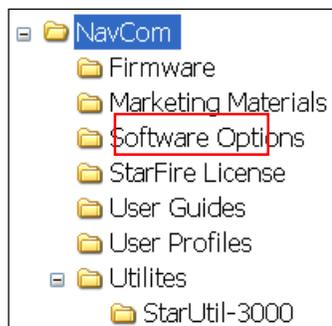
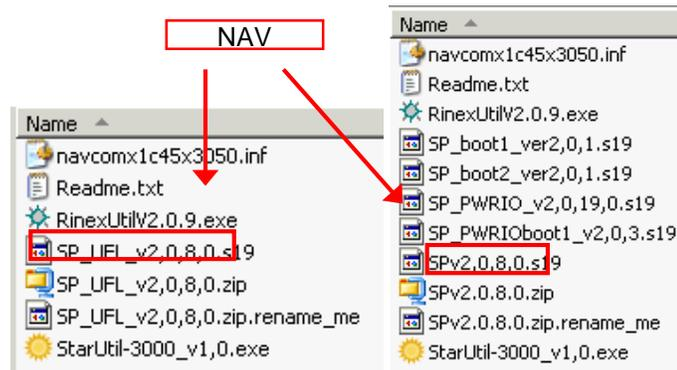

Figure 2: NavCom Sub-Folders on PC
Figure 9: Firmware Folder
12. On the PC, create two folders in the NavCom folder for the Software Options File and the StarFire License (see Figure 2).
- Browse to Navcom\Utilities\StarUtil 3000 on the PC (see Figure 2).
21. Browse to the NavCom\Firmware folder on the PC (see Figure 2). The Firmware folder is copied from the SF-3050 Product Configuration USB Flash Drive. It contains the *most current firmware* (see example files in Figure 9). The firmware file extension is *.s19.
28. Browse to NavCom\Firmware on the PC (refer to Figure 2). The Firmware folder contains the *most current firmware*. The firmware file extension is *.s19.